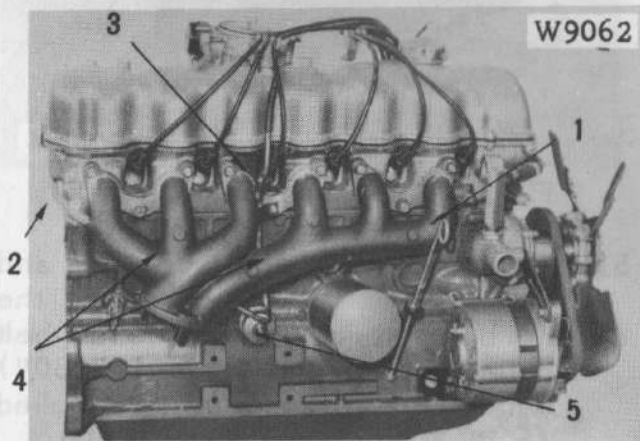

Fig.2-119 Assembly
52. Install the oil pressure sender gauge (5) onto the engine in figure 2-119.